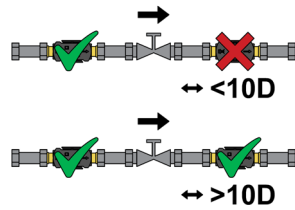

Fig.2
2. Do not place the flow sensor immediately after a butterfly valve or a regulating control valve. However, previous installation is permitted (Fig.2);